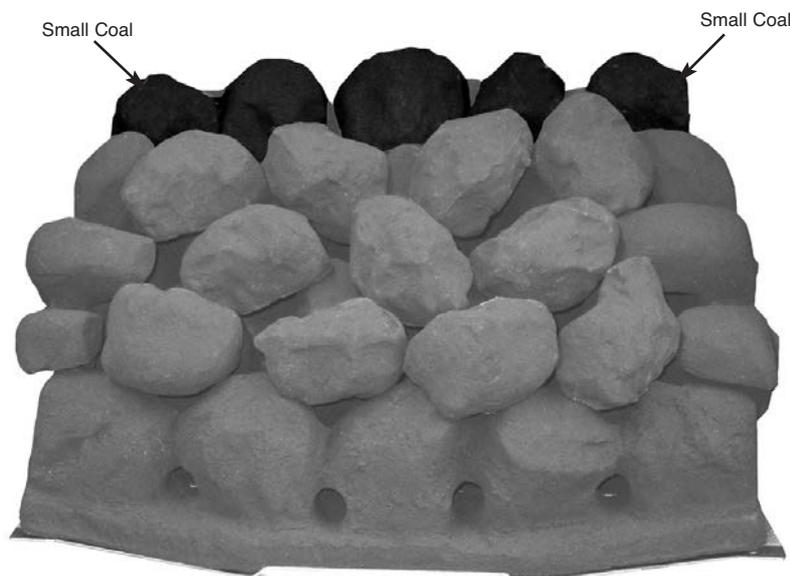

Fig. 27
8. Place the next three coals in the middle, on the back edge of the coals previously laid ensuring even gaps all round. Finally place the two small coals, one in each top corner. Make any adjustments necessary to achieve even gaps as this will help in giving a well balanced flame picture and an even glow (Fig. 27).